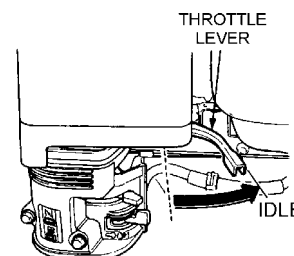

Figure 15. Throttle Lever (Idle)
2. After the engine cools, turn the engine **ON/OFF** switch to the **OFF** position (See Figure 15).